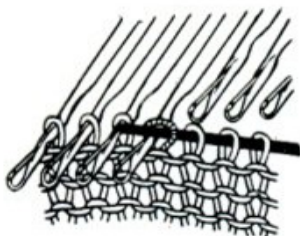

Fig. 53
- c. Slide the knitting needle into the next stitch and repeat until all the stitches are off the needles in the needle bed. (See Fig. 53)